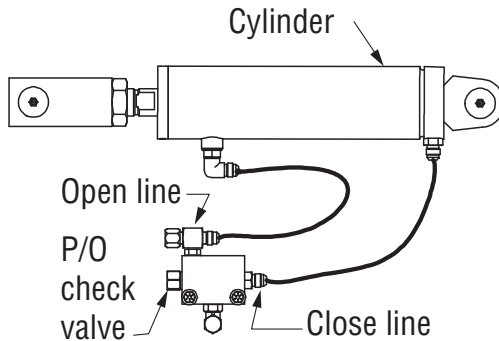

Figure 4-2, Check Valve and Hoses
1. Remove the caps covering the check valve ports and attach customer supplied hydraulic hoses. (Figure 4-2).